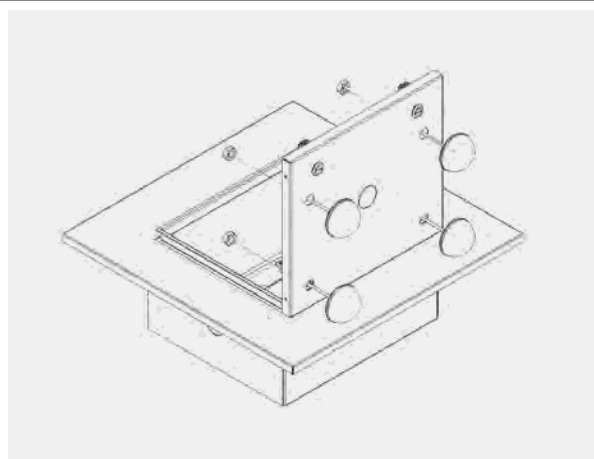

Figure 3
Step 3 – (Optional) With the desired number of holes opened, attach antennas (such as Oberon's BMANT or DMDUAL) and DAS antennas by inserting the cables through the door holes. Fasten the antennas to the door per the antenna manufacturer's instructions. To retain the water and dust resistance of the enclosure, antennas should have a gasket to fill the opening. After installation, connect the RF coax cable from the antenna to the access point (Figure 3). If using Bulkhead connectors, use Oberon Bulkhead connectors with provided o-ring (P/N 35-NFBLKHD) to maintain water tightness.